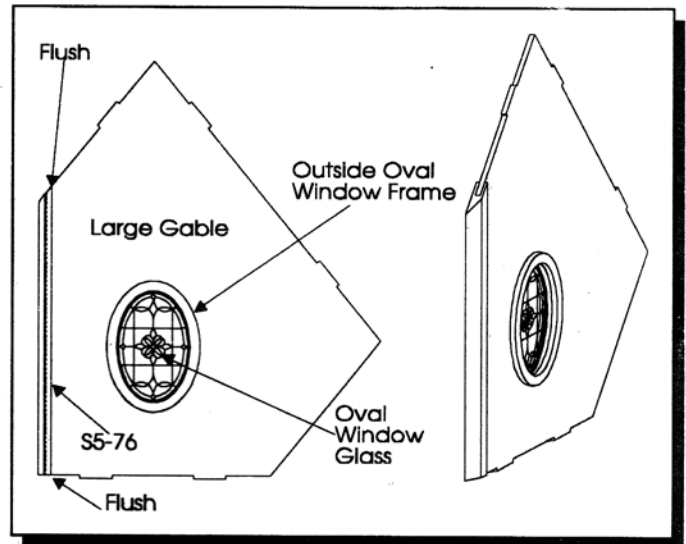

Figure 26
8. Glue a piece of S5-76 to the edge of the Large Gable and cut off flush as shown in Figure 26. Inner tip may need to be notched to fit around the 4th Floor Support.